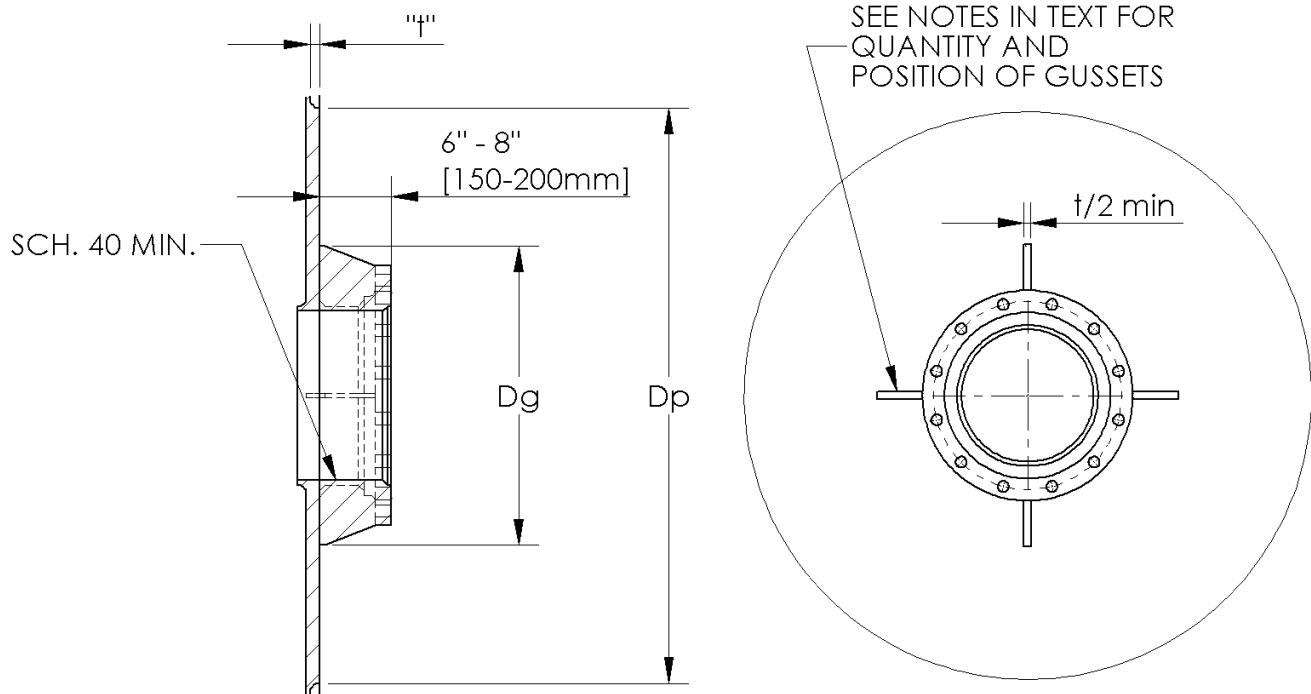

Figure 4: Reinforcing Pad and Gussets
Unless otherwise specified, use reinforcing pads and gussets to reduce the nozzle area stresses and provide rigidity. Figure 4 illustrates a typical design recommendation. Refer to Table 1 for pad and gusset design details for simple tank geometry. Trim the reinforcing plate near the tank floor as required. Gusset plate thickness is $t/2$ minimum. For 10" or 12" flanges, four (4) gussets at 90° as shown is recommended. For larger or custom flanges, more gussets equally spaced will be required. More complicated tanks will require custom calculations for these values, and the table values may not be applicable. It is the responsibility of the customer or tank designer to verify that the guidelines provided are adequate in terms of stress and stiffness for each installation and each mixer. Use the loads provided on the agitator general arrangement drawing to verify the nozzle design.